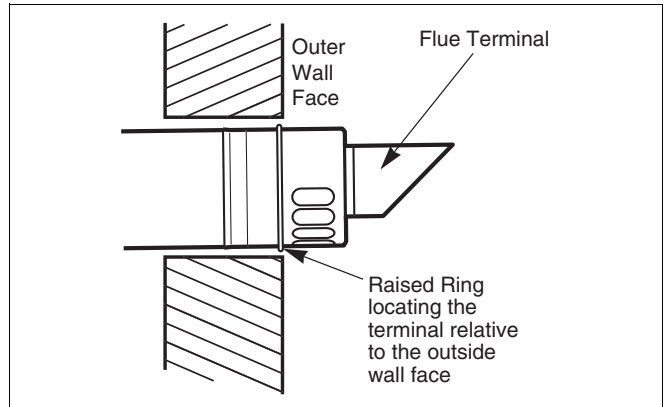

Fig. 13 Flue terminal position
- Mark of the lengths shown onto the ducts and cut the length. The cuts must be square and free from burrs. Terminal assembly outer (air) duct - L-70 mm, inner (flue) duct - L-50 mm. The measurement is made from the ridge at the terminal indicating the outer face of the wall. Refer to figure 13.